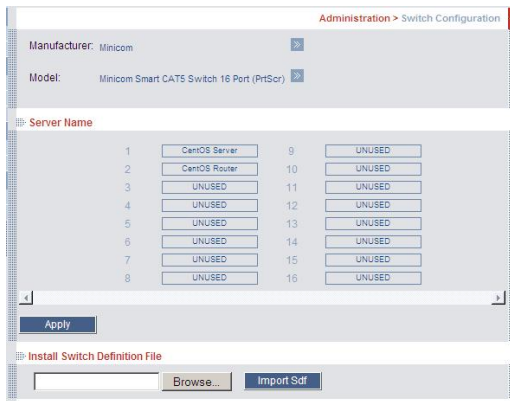

Figure 14 Switch Configuration
1. From the menu click **Switch Configuration**. The KVM Switch Configuration window appears, see Figure 14.